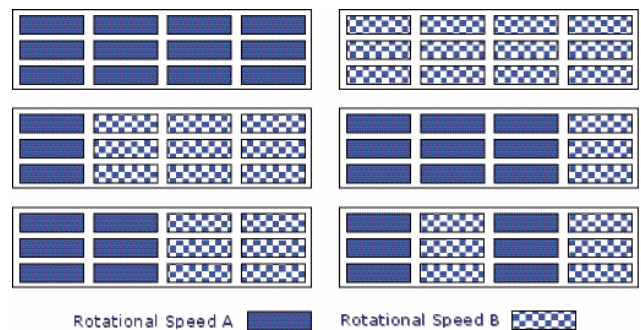
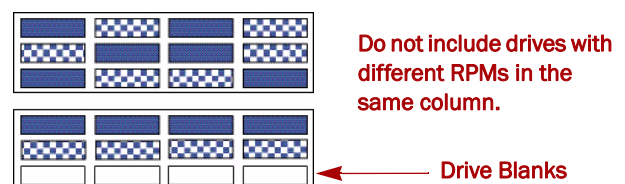

Figure 11. Supported Drive Configurations
Figure 12. Unsupported Drive Configurations
- Drives of different rotational speed (such as, SAS and SATA drives) can be installed (Figure 11), but they should not be installed in the same column or be separated from each other by a column of different rotational speed drives (Figure 12). If you are combining drives with different speeds, use the figures below to plan where to place the disk drives.